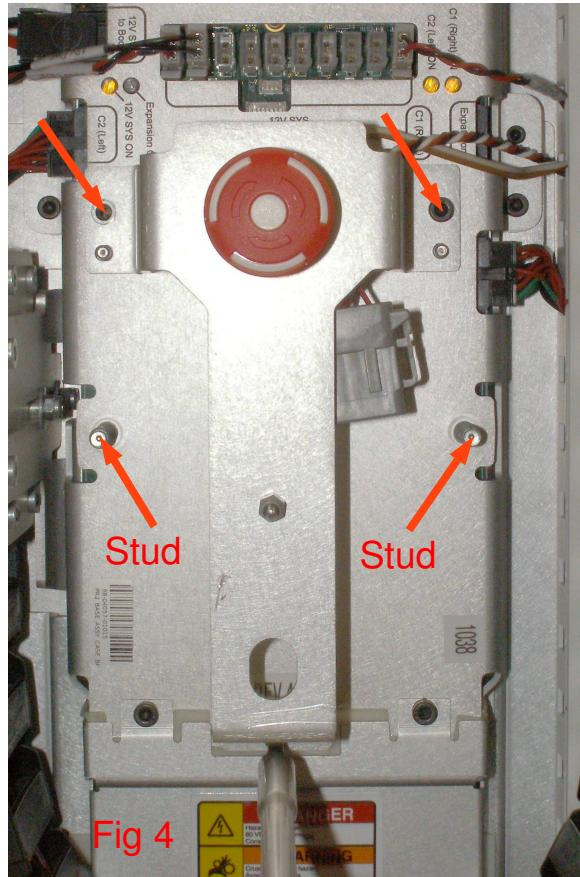

Fig 4
- Using the 3mm bit with the T-handle driver, remove the 3 Run-stop bracket mounting screws. 2039-08 Using the 10mm socket together with the 3/8 extension and the 3/8 wrench, remove the 2 Nuts on the R130 mounting Studs. 2614 (Fig 4)
- Move the Bracket out of the way and slide the R130 on to the studs. Plug in the power connector. (Fig 4,5)